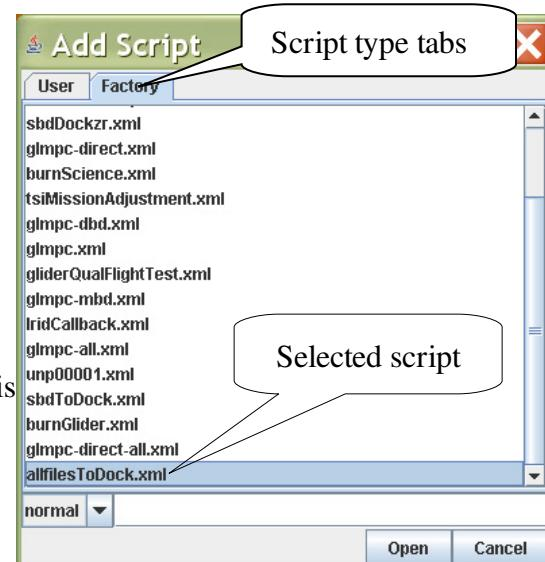

Figure 4-6. Add Script Dialog.
2. From the Add Script dialog (figure 4-6), click the tab corresponding to the type of script, User or Factory.
Figure 4-6 shows the factory script “allfilesToDock.xml” being added.